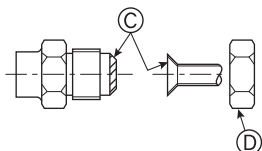

Fig. 4-8
Ⓐ (Fig. 4-8)
Ⓑ (Fig. 4-8)
4.2. Connecting pipes (Fig. 4-8)